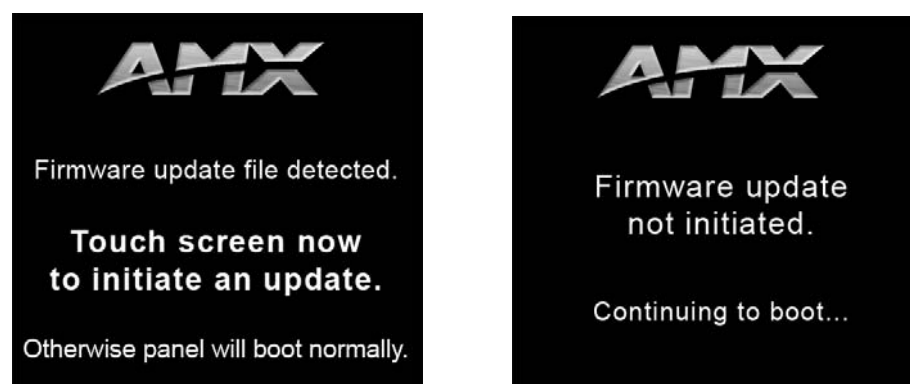

FIG. 56 Update initiation screen
2. Reboot the touch panel. When the touch panel restarts, the device will detect the firmware upgrade and display a screen requesting that you touch the screen to initiate an update. If you do not touch the screen within three seconds, the firmware update will not be initiated and the panel will boot up normally (FIG. 56).